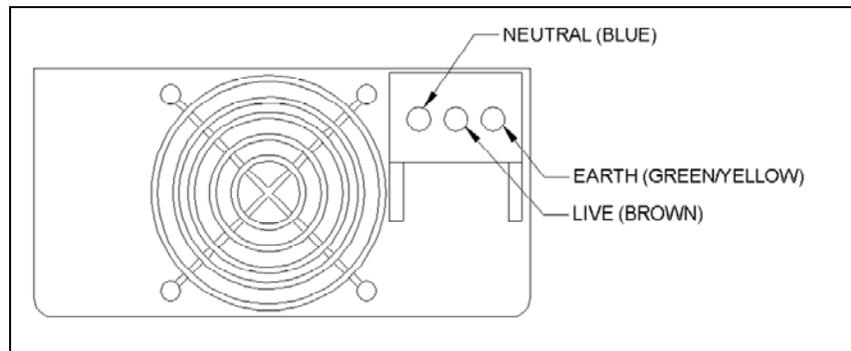

Figure 17-14 AC Input Terminals
- 2 Remove the Power Supply Unit (PSU) filter harness to the AC input terminals (Figure 17-14) of the power supply as follows: